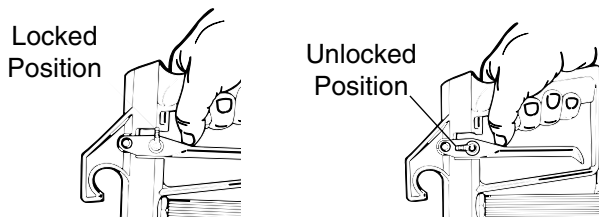

Figure 4 - Gun in Locked & Unlocked Position
1. Lock gun. See Figure 4.
5. Unlock **SPRAY GUN TRIGGER LOCK** by turning lock down toward the bottom of the handle. Figure 4